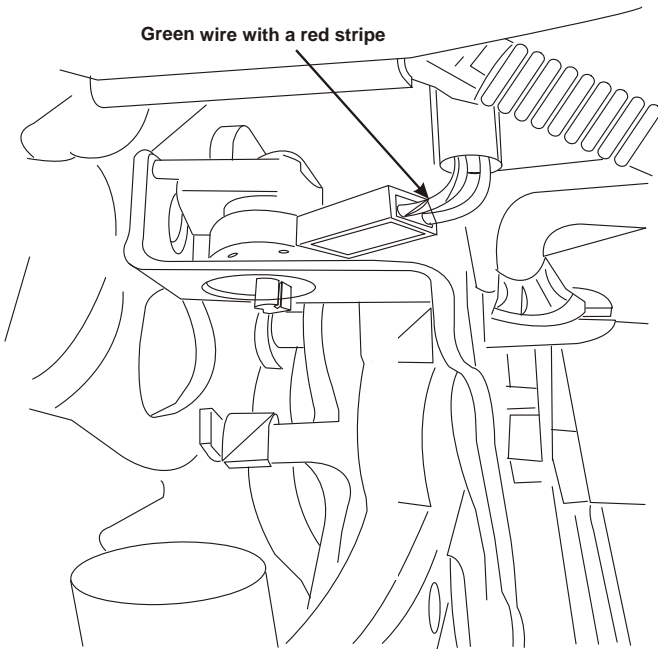

Figure 4.15
- Solder and seal the black DDC wire labeled “Park Brake” to the green with red stripe wire at the park brake (Figure 4.15).